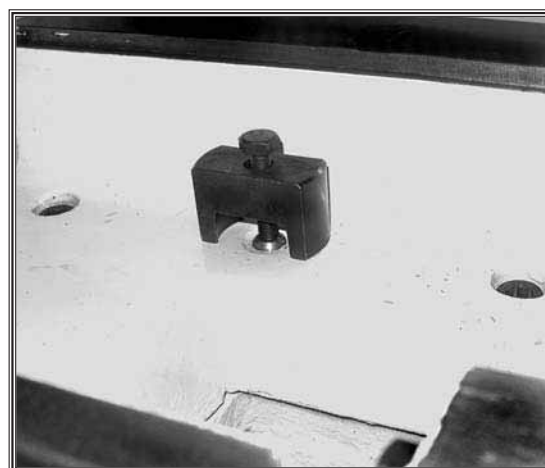

Figure 34. Gap pin puller installed on pin.
3. Position the gap pin puller on the pins and thread the puller bolt into the pin as shown in **Figure 34**.